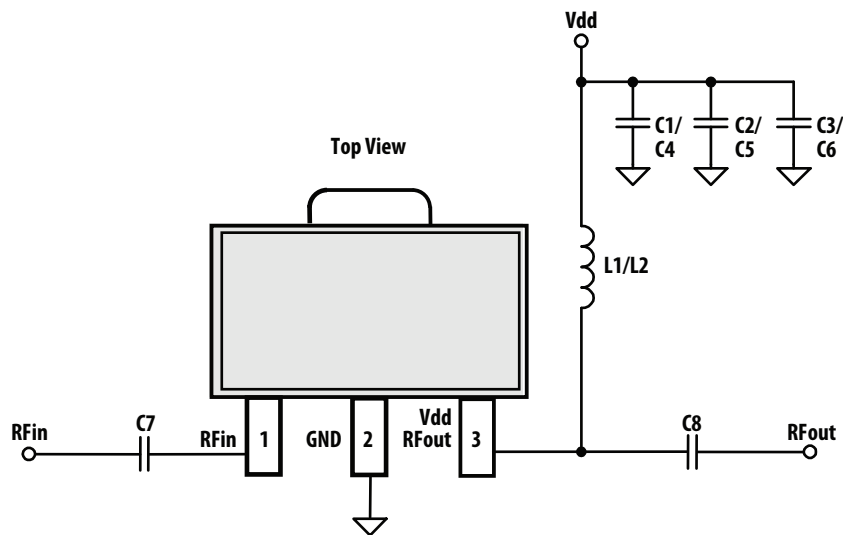

Figure 30. Application Schematic
1. Measurements obtained using demo board described in Figure 30 and 31. 40MHz data was taken with 40MHz - 2GHz Application Test Circuit, 900MHz data with 0.2GHz – 2.6GHz Application Test Circuit and 1.95GHz data with 1.5GHz - 2.6GHz Application Test Circuit respectively.
$T_A = 25^\circ\text{C}$, $V_{dd} = 5\text{V}$, Input Signal=CW. Application Test Circuit is shown in Figure 30 and Table 1.
$T_A = 25^\circ\text{C}$, $V_{DD} = 5\text{V}$, Input Signal=CW. Application Test Circuit is shown in Figure 30 and Table 1.
$T_A = 25^\circ\text{C}$, $V_{DD} = 5\text{V}$, Input Signal=CW. Application Test Circuit is shown in Figure 30 and Table 2.
$T_A = 25^\circ\text{C}$, $V_{dd} = 5\text{V}$, Input Signal=CW. Application Test Circuit is shown in Figure 30 and Table 2.
$T_A = 25^\circ\text{C}$, $V_{dd} = 5\text{V}$, Input Signal=CW. Application Test Circuit is shown in Figure 30 and Table 3.
$T_A = 25^\circ\text{C}$, $V_{DD} = 5\text{V}$, Input Signal=CW. Application Test Circuit is shown in Figure 30 and Table 3.